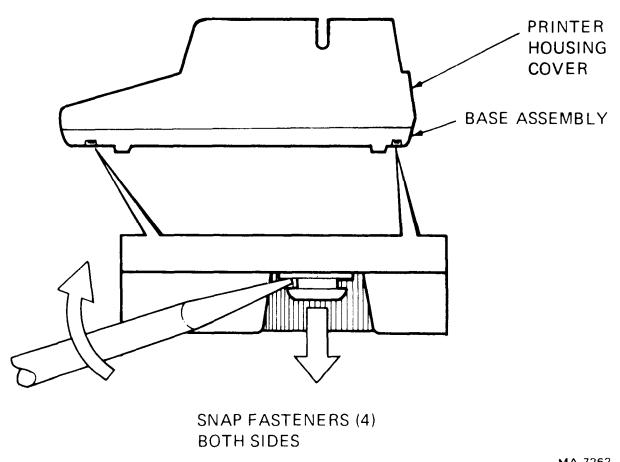

Figure 7-4 Printer Housing Removal
9. With a small blade screwdriver, release the four snap fasteners that secure the printer housing cover to the base assembly (Figure 7-4).